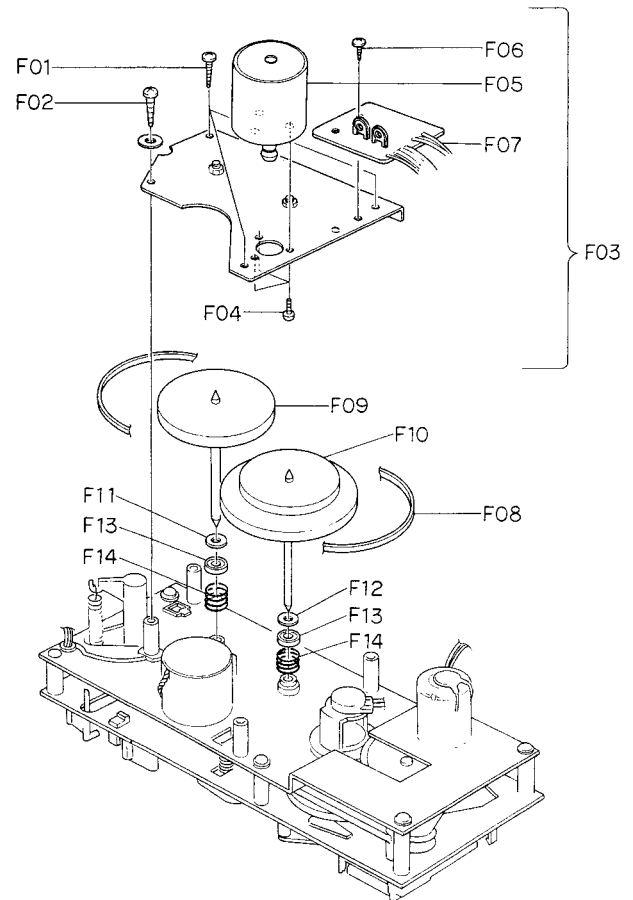

Fig. 2.6
Refer to Fig. 2.6.
- (1) Refer to Fig. 2.6. Remove Flywheel Assemblies referring to item 2.16.
- (2) Remove F01 and F02, then disassemble F03 (Sub Mechanism Chassis Ass'y).